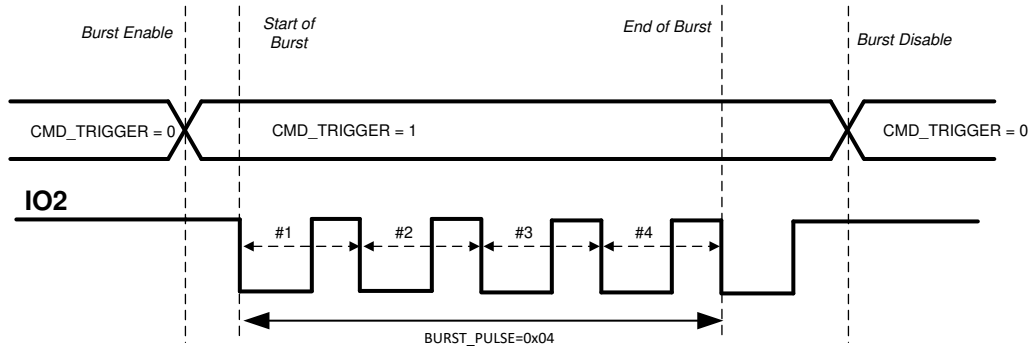

**图 7-1. IO\_MODE 0 Description**
- **IO\_MODE = 0:** In this mode, the external clock for the transducer is applied at the IO2 pin and the burst mode is enabled by setting the CMD\\_TRIGGER in the TOF\\_CONFIG register through SPI, as shown in 图 7-1. The device then expects a clock at IO2 pin to generate pulses on the OUTA/OUTB pins. The start of burst happens from the first falling edge of IO2. The number of pulses are counted by counting falling edge to next falling edge transitions on IO2 once the start of burst is triggered. The end of burst sequence is signaled when the number of pulses defined in BURST\\_PULSE are sent, or when the CMD\\_TRIGGER = 0 is set through SPI, whichever occurs earlier. TI recommends that IO2 is held high before burst enable to count the number of pulses correctly. After the start of burst, the state of OUTA and OUTB pins are determined by IO1 and IO2 pins. A transition of CMD\\_TRIGGER from high to low to high again is required to initiate a new burst sequence.